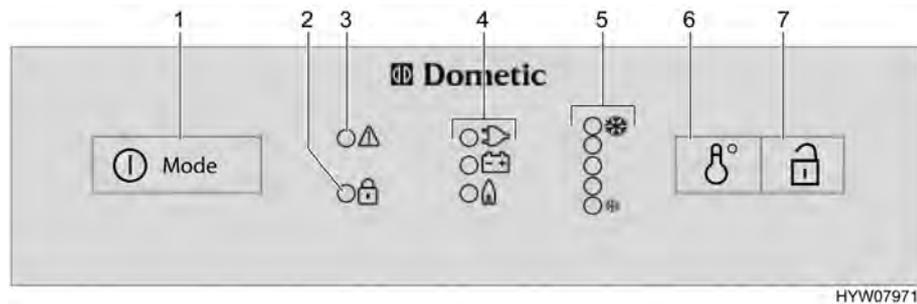

Fig. 158 Operating controls for the refrigerator (Dometic 8 series with MES)
- Press the on/off switch/energy selector switch (Fig. 158,1) down for 2 seconds in order to switch on the appliance. The LED of the operating mode chosen most recently lights up.
- If appropriate press the on/off switch/energy selector switch (Fig. 158,1) until the gas operating indicator "🔥" lights up. Gas supply is open. Ignition will take place automatically. A ticking sound can be heard until ignition has been completed successfully.
- Use switch (Fig. 158,6) to adjust refrigerating temperature.
- If appropriate press the on/off switch/energy selector switch (Fig. 158,1) several times until the operating indicator 230 V "⚡" lights up.
- If appropriate press the on/off switch/energy selector switch (Fig. 158,1) several times until the operating indicator 12 V "🔋" lights up.